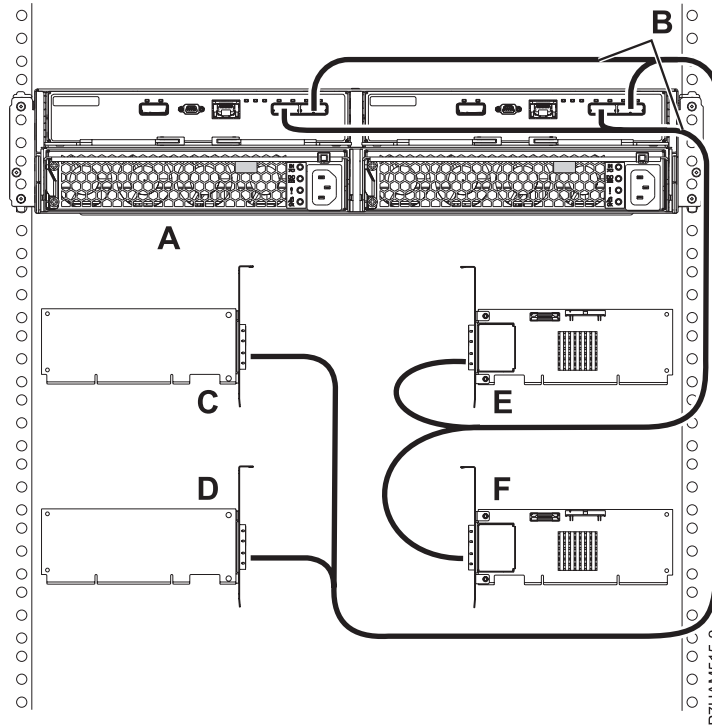

Figure 43. Mode 4 connection of one 5887 disk drive enclosure by using X cables to four independent SAS adapters
17. Perform the mode 4 connection of one 5887 disk drive enclosure (A) by using X cables (B) to four independent SAS adapters as shown in Figure 43 on page 84.